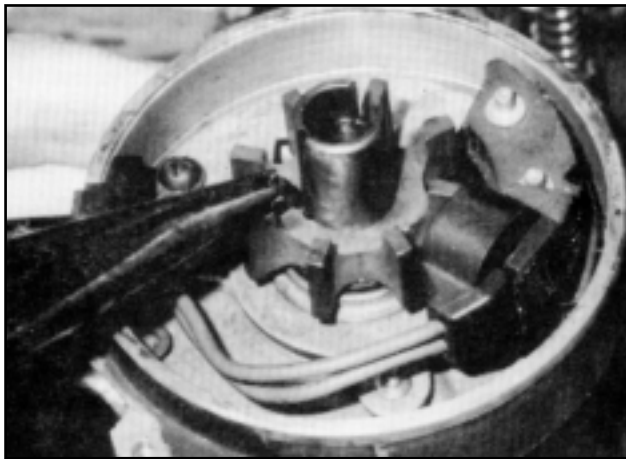

FIG. 15
18. Install reluctor. Make sure roll pin is in correct slot on reluctor as removed. Align the correct slot in the reluctor with the slot in the governor, and then push the small roll pin into the hole. A screwdriver and a small hammer works well to tap the roll pin into place. (FIG. 15)